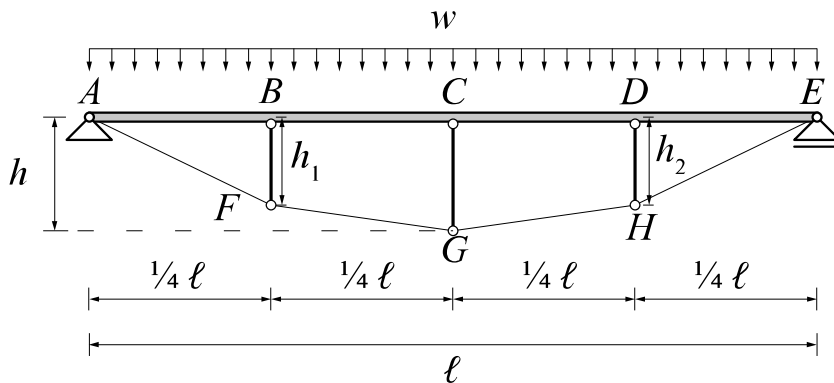

Fig. 1
- (3) Consider the beam string structure in Fig. 1. Plot the possible range of h_1 and h_2 , in the h_1 - h_2 plane taking h_1 and h_2 as axes, such that struts BF , CG , and DH are all under compression and cables AF , FG , GH , and HE are all under tension.